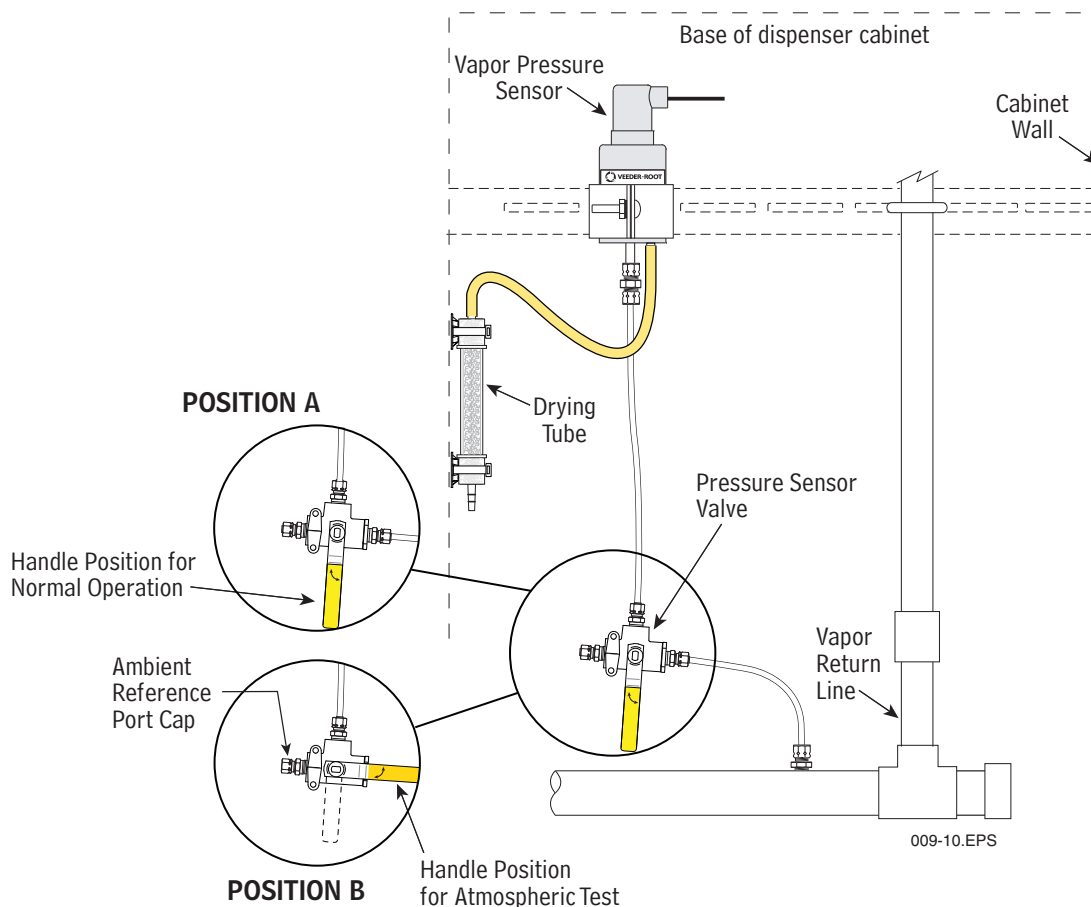

Figure 17. Pressure Sensor Valve Handle Positions
2. Remove the cap from the ambient reference port of the Vapor Pressure Sensor valve and open the valve to atmosphere by turning the handle up 90 degrees so that the flow arrows point to both the Vapor Pressure Sensor sensing port and the ambient reference port (position B in Figure 17).
5. Replace the cap on the ambient reference port of the Vapor Pressure Sensor valve. Turn the Vapor Pressure Sensor valve handle down 90 degrees so that the flow arrows point to both the Vapor Pressure Sensor sensing port and the UST vapor return line (position A in Figure 17).